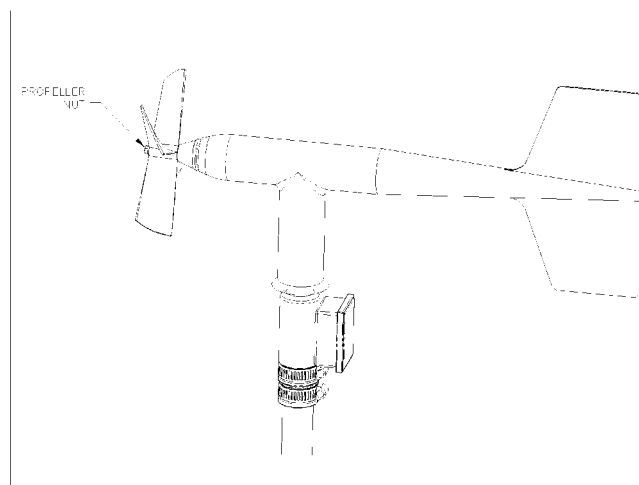

Figure 1-25. Wind Monitor - Propeller Nut
- a. Remove propeller nut and propeller from Wind Monitor (See Figure 1-25).